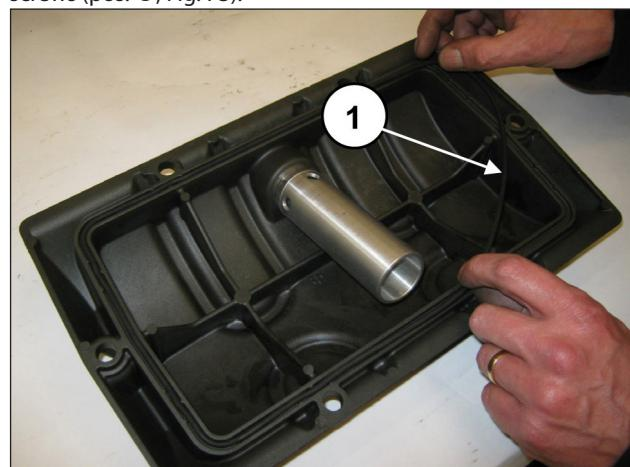
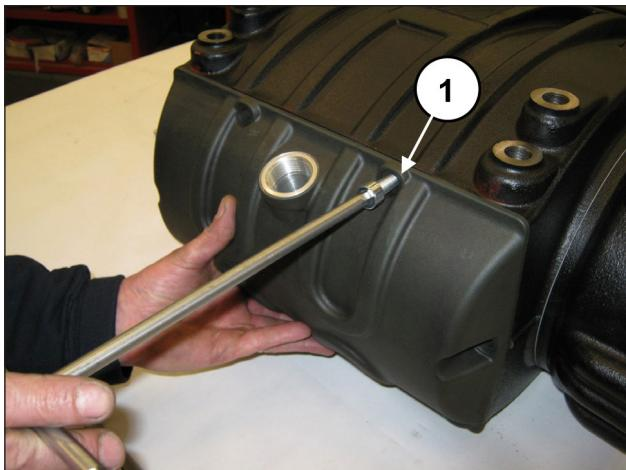

Fig. 72
Fig. 73
Insert the O-ring on the rear cover (pos. ①, Fig. 72) and assemble the cover on the casing with the aid of 6 M10x30 screws (pos. ①, Fig. 73).